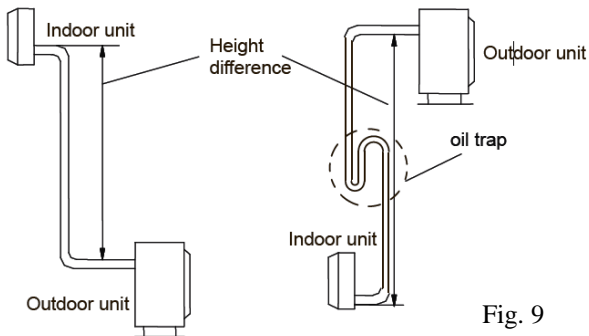

Fig. 9
- If the installation position of the outdoor unit is higher than indoor unit and the gas tubing is longer than 10m, add an oil trap on the gas tubing for every 8m. (Fig. 9).